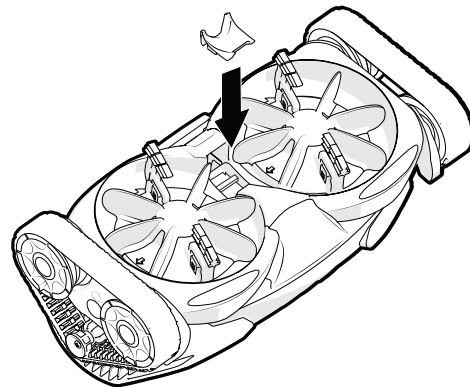

Figure 9. Replace Modular Inlet Adapter
2. Push down on the modular inlet adapter until it clicks into place (Figure 9).